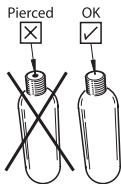

Fig. 1c
- 2) Unscrew and remove the CO₂ gas cylinder from the inflator and inspect its small end. If it is pierced, replace it! (Fig. 1c).
- 1) Unscrew and inspect the CO2 cylinder. If used or damaged, discard the CO2 cylinder (Fig 1c).